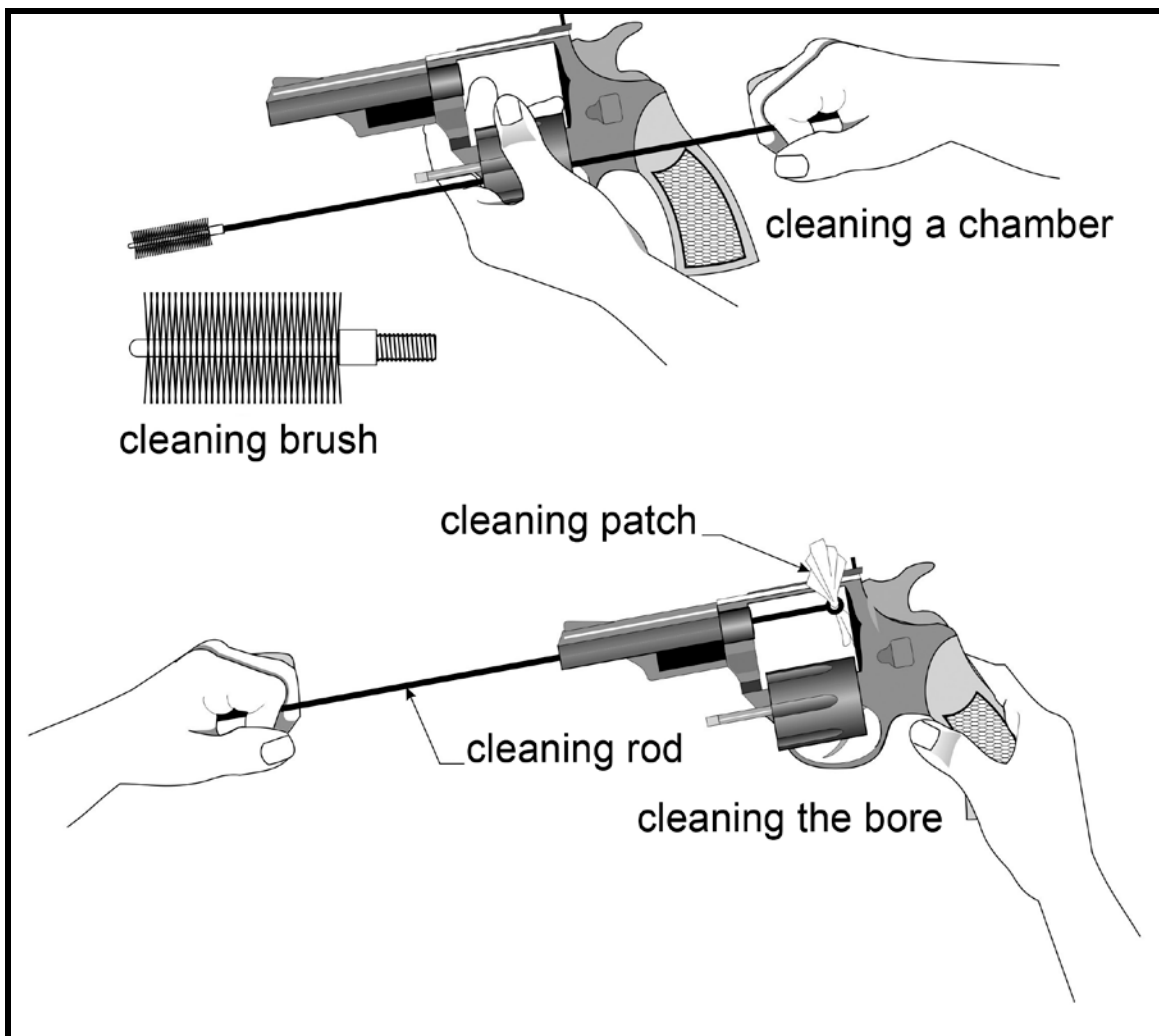

Figure 130. Cleaning a double-action revolver cylinder from the breech to the muzzle
2. Run the brush through the bore of the barrel/chamber(s) several times. Be sure that the brush sticks out completely. Then draw it back through the barrel (Figure 130).